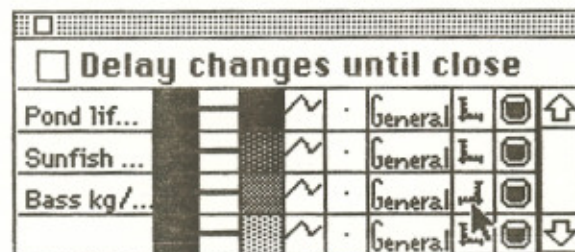

Figure 14. Changing the third row to be plotted on the right-hand axis.
6. Next, click the  tool in the eighth column, third row. It changes to the  tool, indicating that the third input on the plotter will be plotted on the right-hand axis. Figure 14 shows the new window.